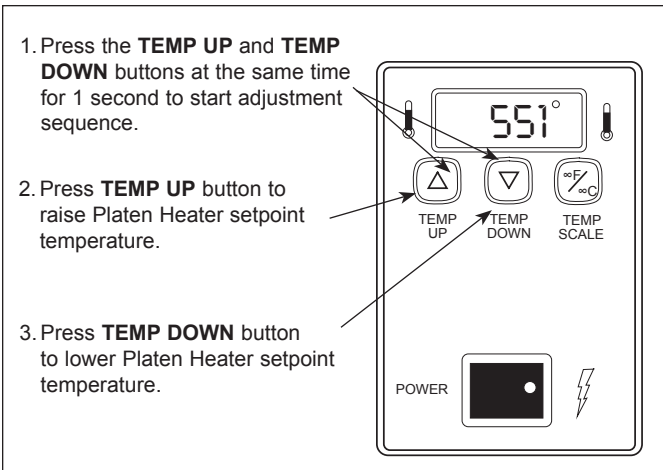

Figure 5. Platen Heater Setpoint Temperature
2. Press and hold both **TEMP UP** and **TEMP DOWN** buttons for over 1 second until the display flashes the Platen setpoint temperature, then release (Figure 5).